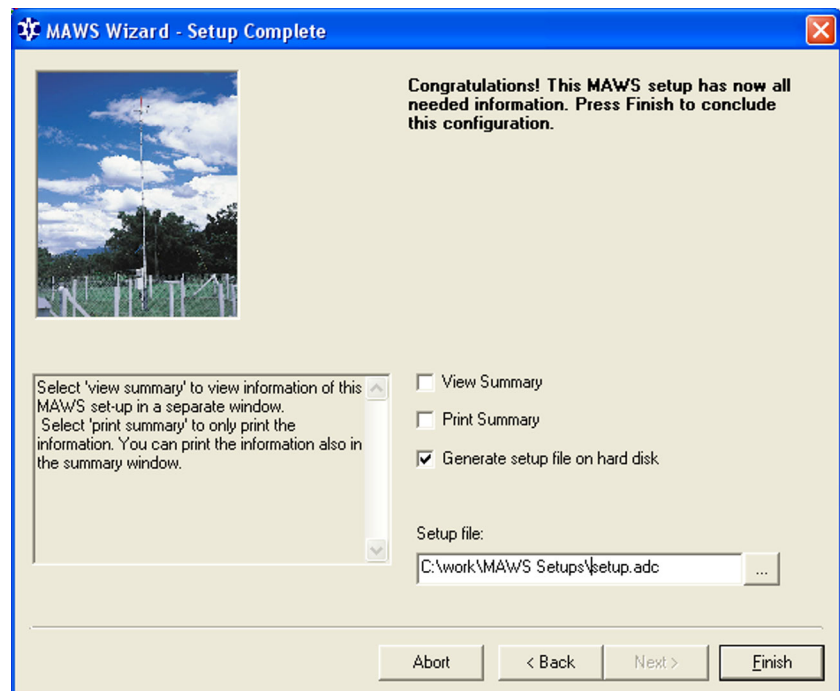

Figure 21 **Completing the Setup**
11. The final Wizard view, the **Setup complete** view presented in Figure 21 on page 43, indicates the completion of Wizard setup creation.